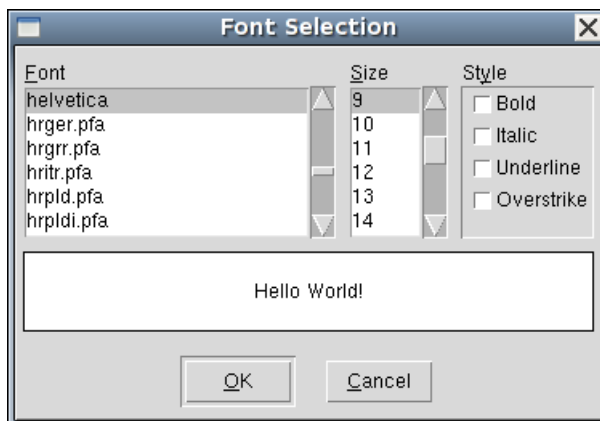

Figure 13 Font Selection dialog box
- The **Choose Font from Dialog** option displays the Font Selection dialog box (see Figure 13) where you can select the font attributes that are available for the operating system.